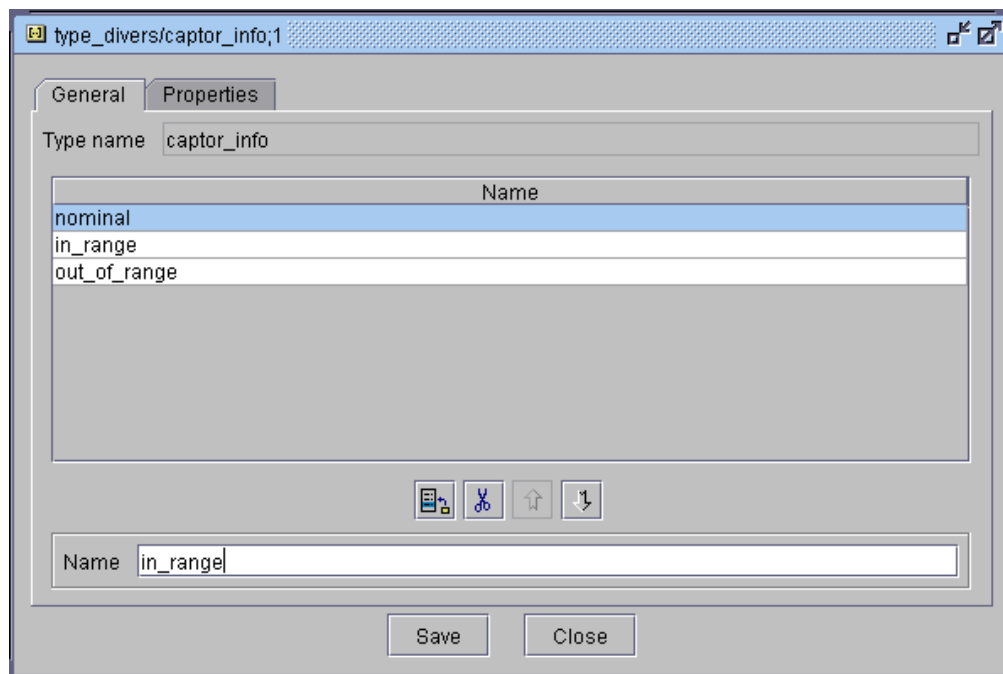

Figure 69 : Create enumerate type
5. Enter a name for the new type in the **Type name** field (Figure 69)
5. The type edition window is displayed (Figure 69).